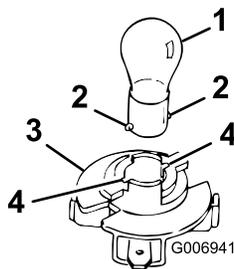

Figure 40
4. Insert and rotate the bulb counterclockwise until it stops (approx. 1/4 turn), and remove the bulb from the bulb holder (Figure 40).
2. Insert the base into the holder (Figure 40).